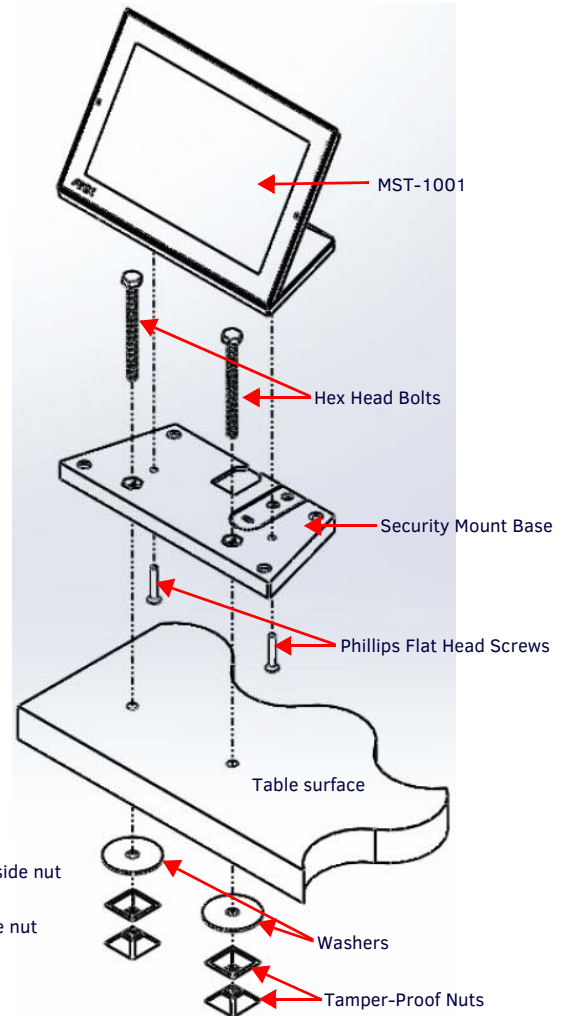

FIG. 2 INSTALLATION PROCEDURE, EXPLODED DIAGRAM
2. Mark the location of the hex head bolt holes going through the security mount base, such as by drilling through the holes into the table (FIG. 2). When drilling through the holes, use a 1/4" drill bit to allow the bolts to pass through. Clean out the drilling debris from the holes and from the surface of the table.
4. Install the hex head bolts through the security mount base (FIG. 2). Do NOT secure the bolts in the table at this time.